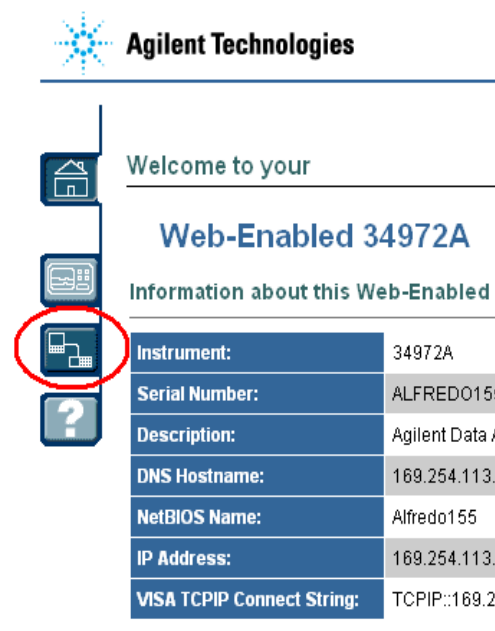

Figure 1C. Web Interface Menu
1. Go to the section “Steps for LXI interface Lab” on page ten. Complete Roman numeral “I” entitled “Connect LXI interface and open 34972A Web-server homepage”. At the end instead of choosing Remote Interface choose Network Configuration as shown in figure 1C.